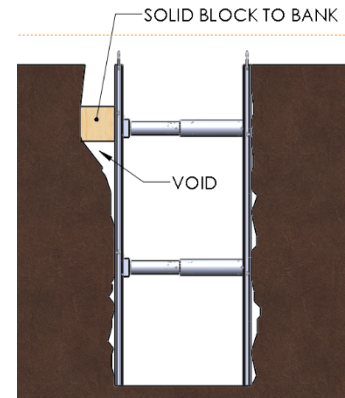

Figure 1: Voids in Excavation,
5. Faces of excavations shall be vertical and there shall be contact with the soil at each cylinder, see **Figure 1**.